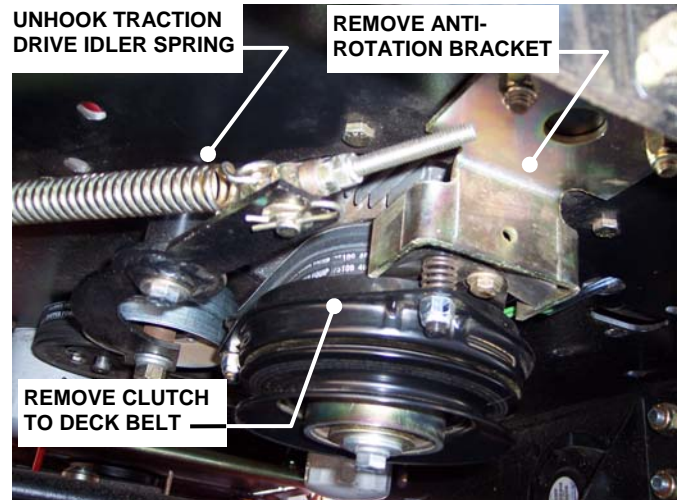

FIGURE 5.10
1. Remove clutch to deck belt. See Figure 5.10
3. Remove anti-rotation bracket. See Figure 5.10
9. Reattach traction idler spring. Run lock nut all the way to the end of the threads on the J-Bolt. Tighten jam nut securely. See Figure 5.10.